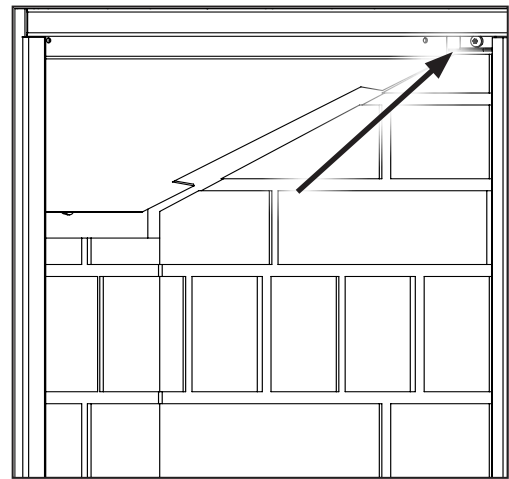

Figure 58. Top Panel Retainers.
3. Next, remove the top brick panel retainers on each side as shown in Figure 58 using a T20 screwdriver.